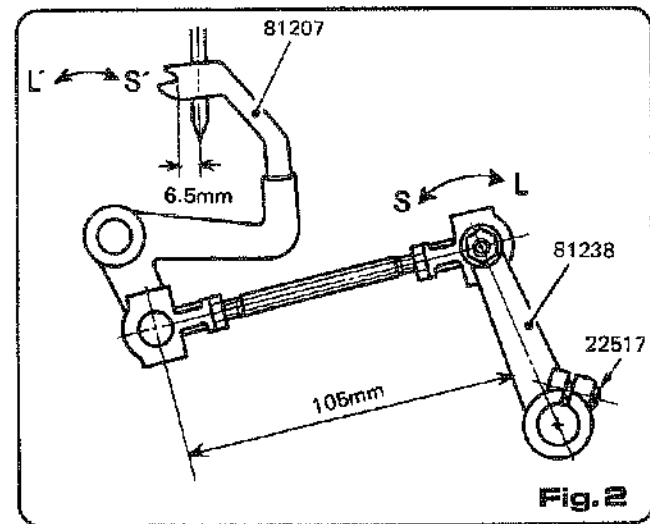

Fig. 2
Turn the pulley clockwise, and check the distance between the needle center and the concave part of the spreader (81207) at the time when the spreader is at the farthest in the left. The distance must be 6.5mm as shown in (Figure 2). If the distance is larger or smaller than 6.5mm, carry out necessary adjustments as follows: loosen the set screw (22517) of the spreader lever (81238), and turn the lever down (direction S') to move the spreader to the right (direction S'), or turn it up (direction L) to move the spreader to the left (direction L'). Never fail to tighten the set screw (22517) after the adjustment.
- 針とスプレッダーの距離 (Fig. 2)